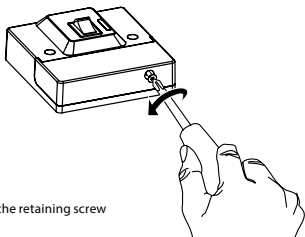

Fig 3 – Loosen the retaining screw
- 4.2 Loosen the retaining screw located on the bottom of the light switch, and open the hinged front cover that conceals the battery holder and On-time/Lux adjusters. (Fig. 3)